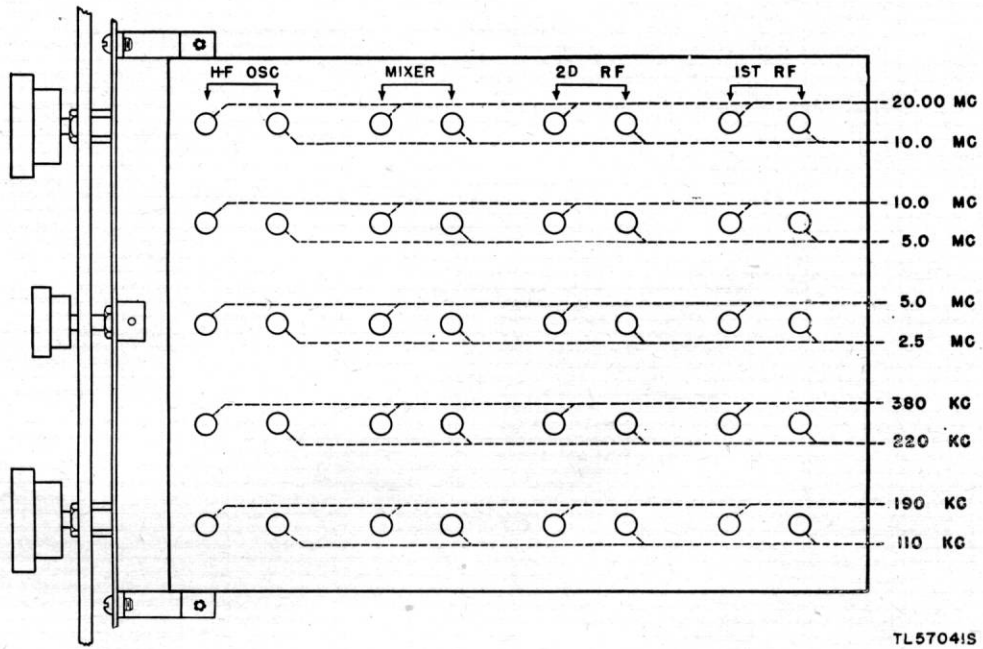
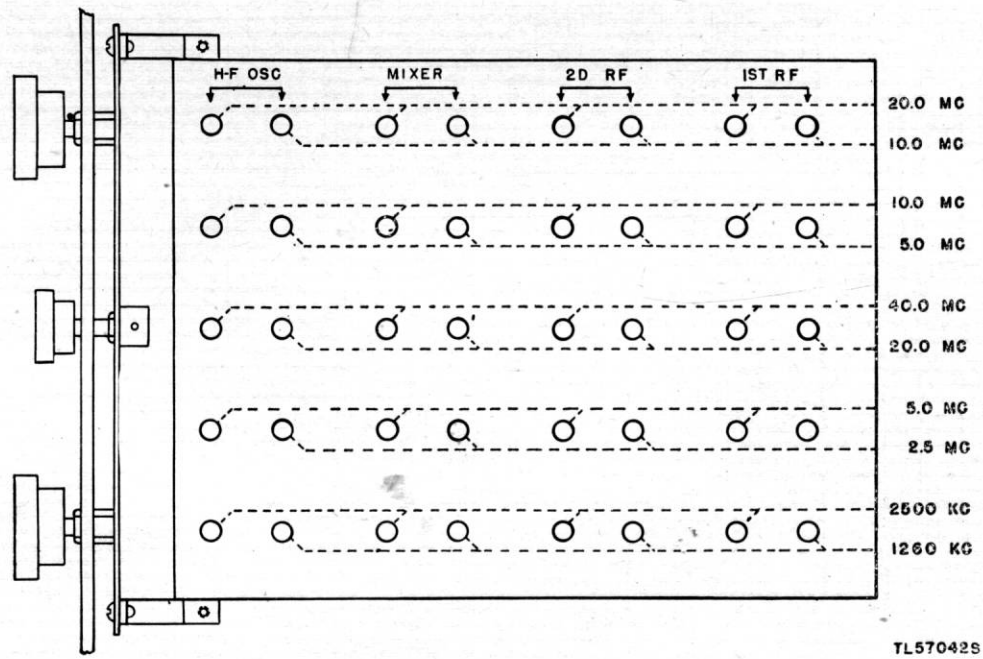

Figure 46. Radio Receiver BC-779-(*), alinement chart.
Figure 47. Radio Receiver BC-794-(*), alinement chart.
shown in figures 46, 47, 48, and 49, respectively. If necessary, the second harmonic can generally be used when the fundamental frequency is not available. For example, a signal generator covering all frequencies from 100 kc to 20 mc, in addition to being ideal for checking Radio Receiver BC-779-(*), could be used to check Radio Receiver BC-794-(*), by using the second harmonic of 20 mc instead of the 40 mc called for in figure 47. The signal generator should have an output of about 100 microvolts and an output impedance of approximately 100 ohms for best results when alining the r-f and h-f oscillator circuits. For i-f alinement these values are not critical. The frequency calibration of the signal generator is extremely important in order that the receiver dial calibration be correct.
b. To correct dial calibration, refer to an alinement chart, figure 46, 47, 48, or 49 for the location of the h-f oscillator adjustments as well as the signal frequencies at which the settings should be made. If the 2.5- to 5.0-mc band is to be corrected, the signal generator may be *accurately* set to 2.5 mc and its second harmonic (if strong enough) used for the 5.0-mc end of the band. In either case, whether the 5.0-mc frequency is the fundamental or second harmonic, the 5.0-mc frequency *must* be accurate. This requires that the setting of the signal generator be accurately adjusted by the use of a frequency meter as described in paragraph 94. The output of the signal generator should be unmodulated and the SIGNAL MOD-CW switch on the receiver turned to CW. Set the BEAT OSCILLATOR control at 0, the AUDIO GAIN at 10, and the AVC-MANUAL switch on MANUAL. Disconnect the output meter and use headphones or loudspeaker to make the necessary adjustments by the zero beat method. Connect the signal generator to the antenna terminals for this test.
c. Set the receiver MAIN TUNING dial to the 5.0-mc end and then tune it to zero beat with the 5.0-mc output of the accurately calibrated signal generator. Notice the approximate dial error. Then turn the MAIN TUNING dial slightly toward the 5.0-mc calibration line until the beat note rises to a high pitch. Do not turn the dial far enough to raise the beat note so high that you cannot hear it. With the alinement screw driver adjust the trimmer capacitor marked H-F OSC-5.0 MC (fig. 46, 47,
48, or 49) until the beat note is again zero. Turn the MAIN TUNING dial still farther toward the 5.0-mc line and make a further adjustment of the trimmer capacitor to return to zero beat. Repeat this procedure as many times as necessary to bring the dial to exactly 5.0 mc. (It is evident that the dial could be set at once on exactly 5.0 mc and the trimmer turned enough at one time to produce zero beat, but the step-by-step method is recommended). Accurately set the signal generator to 2.5 mc by calibrating it with the frequency meter. Then tune in the 2.5-mc signal at the l-f end of the MAIN TUNING dial and correct the calibration step-by-step, as before, using the inductance trimming adjustment H-F OSC-2.5 MC (fig. 46, 47, 48, or 49). Accurately set the signal generator for an output of 5 mc again, and tune the receiver to this frequency. It will be found that the adjustment of the inductance at 2.5 mc has changed the correction previously made at 5.0 mc. This is perfectly normal, because an adjustment at one end of the dial also affects the other end of the band. It will therefore be necessary to go back and forth several times from 2.5 to 5.0 mc in order to bring both ends of the dial scale into exact agreement with the signal frequency. Be sure that the signal generator is always accurately set.
c. Starting with the 2.5- to 5.0-mc band, set the MAIN TUNING dial at 5.0 mc (band spread dial at 100) and adjust the frequency of the signal generator for peak deflection of the output meter. Then check and adjust the setting of the trimmer marked MIXER and 5.0 MC in figure 46, 47, 48, or 49 for maximum reading on the output meter. Repeat this procedure on trimmers indicated as 2D RF and 1ST RF in the same row. If readjustments on one of these settings result in a sizable increase in output meter reading, slightly alter the SENSITIVITY control to reduce the reading to half-scale. After each adjustment check the tuning of the receiver to make sure that the test signal is still accurately tuned. The BAND SPREAD control may be used as a vernier for this purpose in those bands in which it operates (par. 15c). *This tuning check is extremely important at the high end of the 10- to 20-mc and 20- to 40-mc bands where there is some slight interaction between the mixer and h-f oscillator circuit.* After checking the three trimmers at the high end of this band, turn the MAIN TUNING dial to 2.5 mc and retune the signal generator to suit. Then check the three inductance adjuster settings marked 2.5 mc in the same row. Since adjustments at one end of a band also affect the other end of that band, it will be necessary to repeat the above procedure until no further improvement can be secured. The number of repetitions necessary will depend on how much mistuning existed to start with. Check the rest of the bands in the same manner.